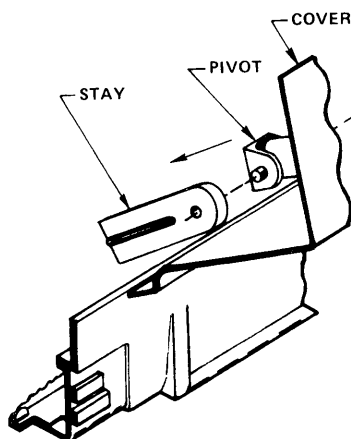

Figure 1. Terminal Cover Stay Detail
2. Lift the cover of Model 820/825 and disconnect the cover stay (located in right rear of printer) by moving top of stay to right and off of pivot pin attached to cover (see Figure 1). DO NOT let cover open more than 90° to base.